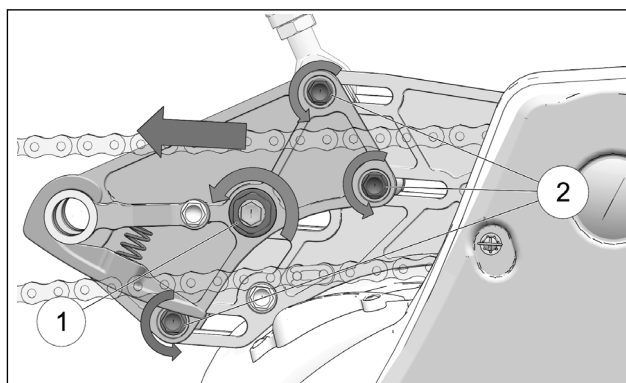

Figure 18
- Loosen nut on eccentric bolt (1) and the Bike mount M8 adjustment bolts (2).
- Using a 12mm socket, rotate eccentric bolt to move the Bike mount out. See Figure 18.